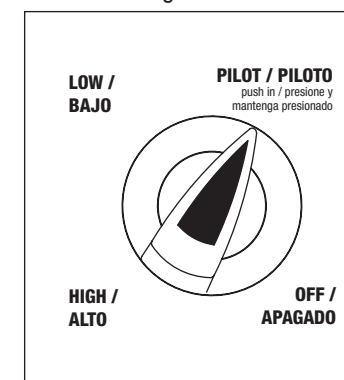

Figure 5
8. Turn control knob to "HIGH". (Figure 5) Main burner will light immediately. Flame is visible through viewing hole. If not, turn control knob "OFF", wait 5 minutes, and repeat lighting procedure.